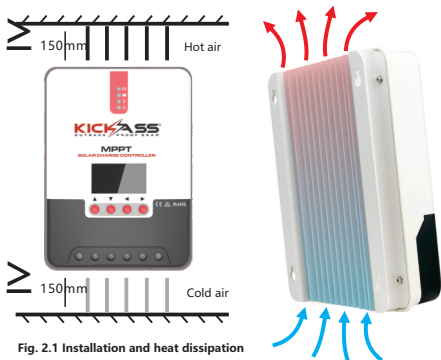

Fig. 2.1 Installation and heat dissipation
- ⚠ When installing controller make sure it is in a well ventilated area (see fig 2.1)